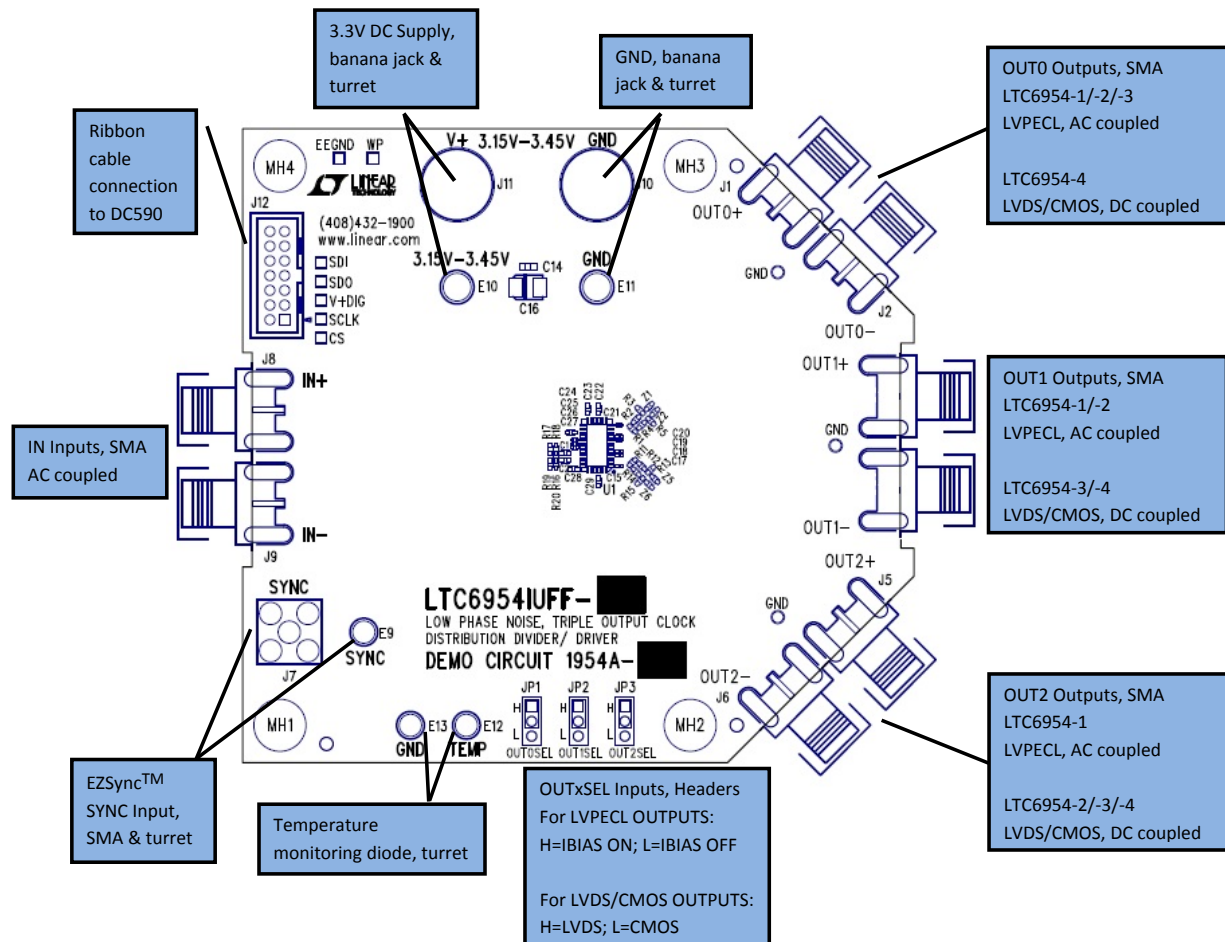

Figure 1. DC1954A Connections
1. Connect the GND and V+ 3.15V-3.45V, turrets to a power supply and apply power (see Figure 1 and the Typical DC1954A Requirements and Characteristics table).